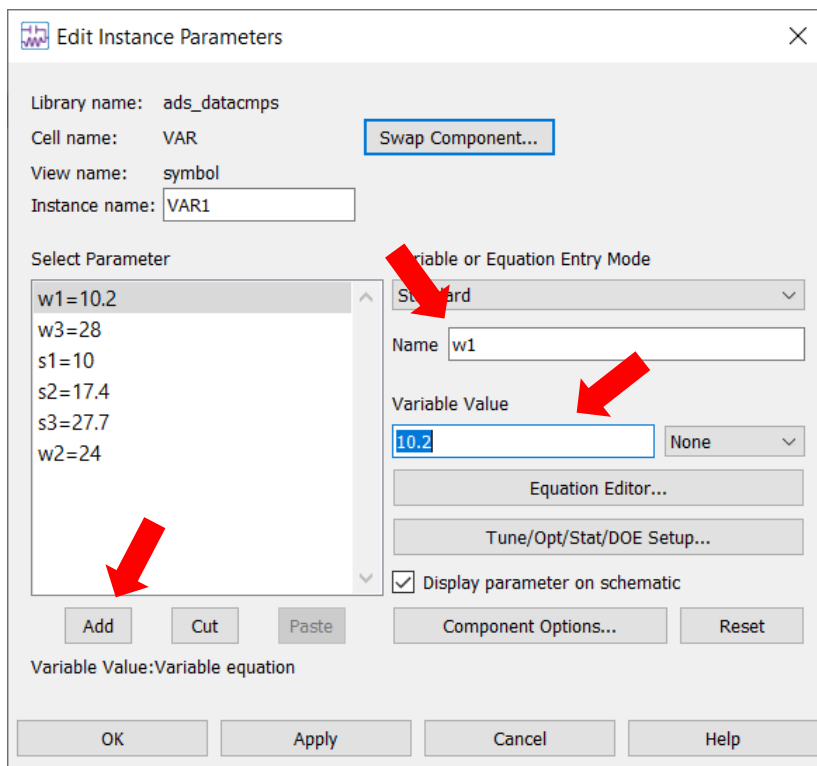

Figure 3. Directions on how to Change the VAR Value
- e. Define the values in the VAR block. To do this, double click on the block. In the window, enter a name and value for the variable. Press **Add** to create the variable as seen in Figure 3.